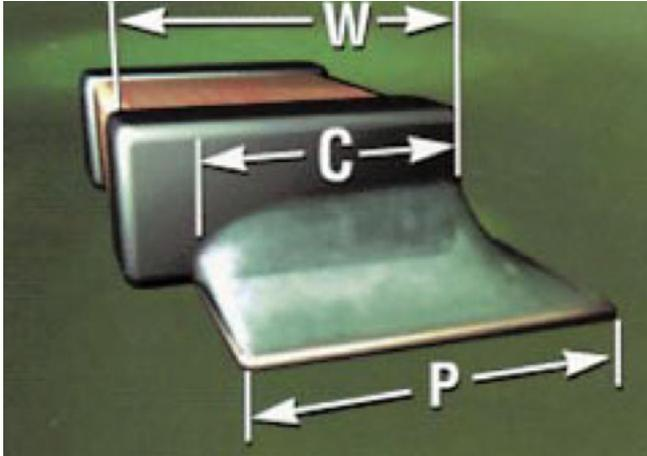

Figure 12: Solder joint length^[9].
Taking into consideration the IPC-A-610 standard regarding the specification of the solder joint along the component electrode, as seen in Figure 12, it was implemented a new classifier (20).